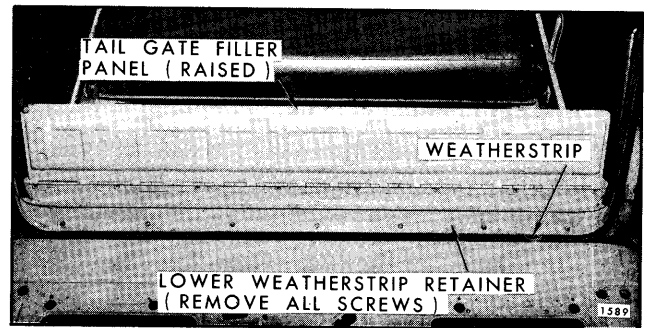

Fig. 9-22—Tail Gate Weatherstrip Retention - "B" Body Styles
1. Open tail gate and remove fasteners and/or screws securing weatherstrip to right and left body pillars (at belt). On "B" styles, remove screws securing lower weatherstrip retainer to rear body cross bar (See Fig. 9-22).